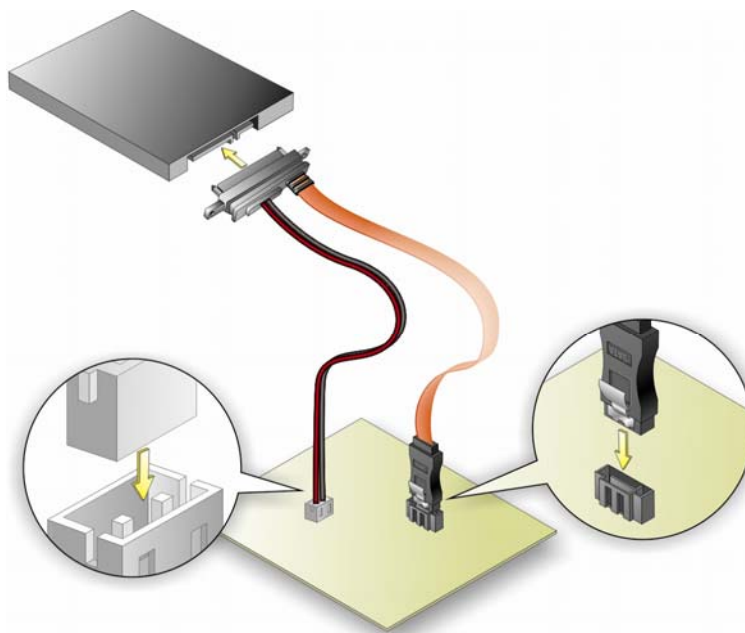

Figure 4-16: SATA Drive Cable Connection
Step 2: Insert the cable connector. Insert the cable connector into the on-board SATA drive connector and the SATA power connector. See **Figure 4-16**.
Step 3: Connect the cable to the SATA disk. Connect the connector on the other end of the cable to the connector at the back of the SATA drive. See **Figure 4-16**.